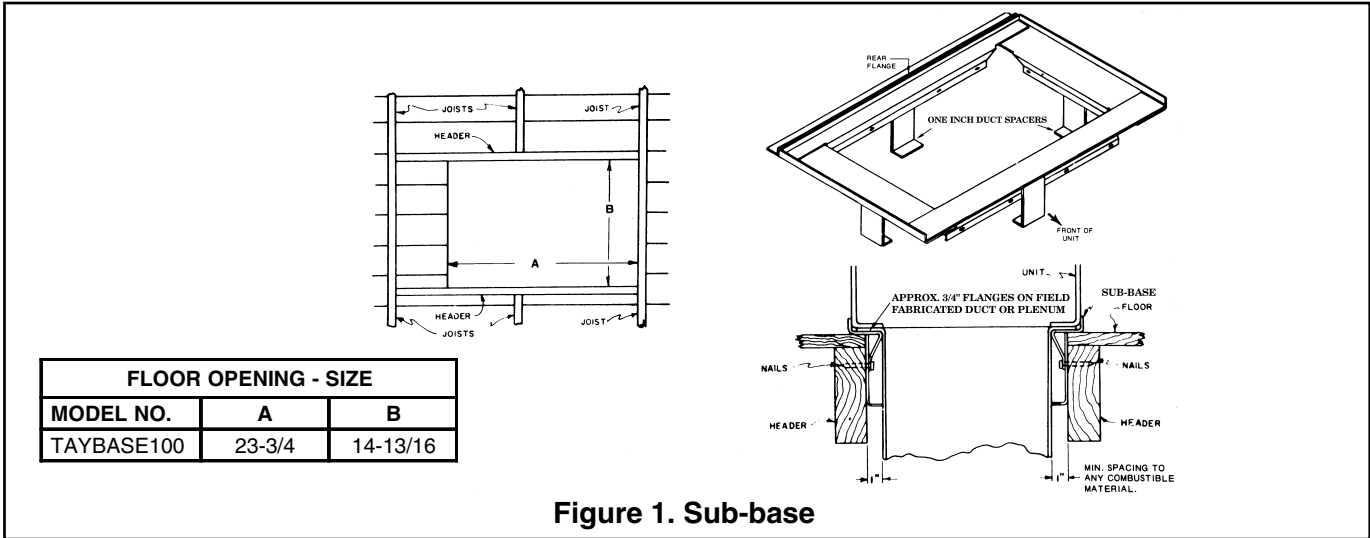

Figure 1. Sub-base
6.When the modular blower with supplementary heater is to be installed in the downflow position on combustible flooring an accessory sub-base (TAYBASE100) must be used. See Figure 1.